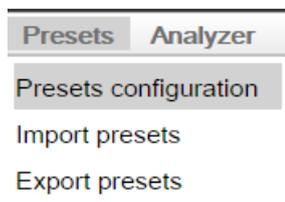

Figure 58: Preset choice dialog box
2. In the Preset choice dialog box click Choose file. Browse for the file of the preset and click Open (see “Figure 58: Preset choice dialog box” on page 59).